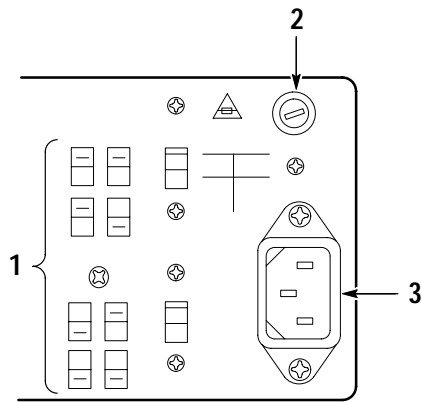

Figure 1: Line Voltage Selectors, Power Input, and Fuse Locations
Check the following items prior to operating the CFG280 Function Generator for the first time (see Figure 1 for locations of items 1 through 3):